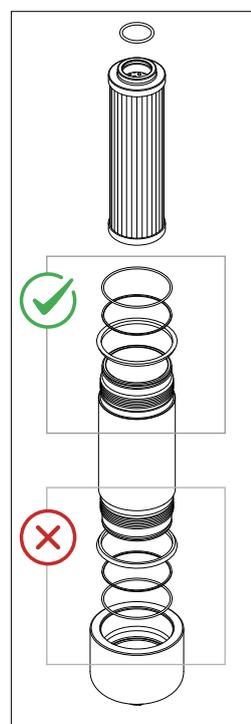

fig. 23
- (Fig. 23) Fit #1 the head seal, #2: the anti-extrusion ring and #3 the O-ring in the bowl groove, insert the O-ring in the filter element cap